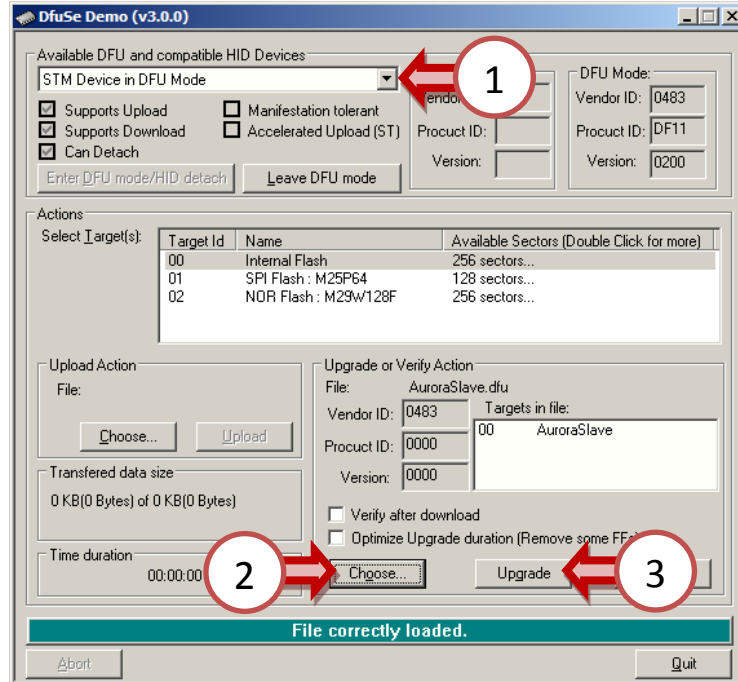

Figure 27. ST DfuSe main window
2. Start ST DfuSe Demonstration software by going to Start->All programs->ST Microelectronics->DfuSe->DfuSe Demonstration. You should now see the window shown in **Figure 27**.